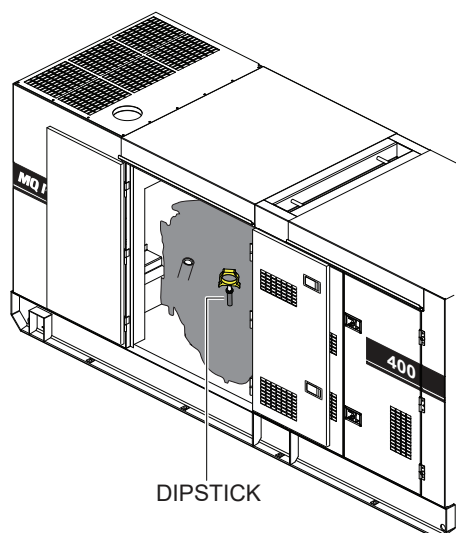

Figure 26. Engine Oil Dipstick
2. Remove the **dipstick** from its holder (Figure 26) and wipe it clean.